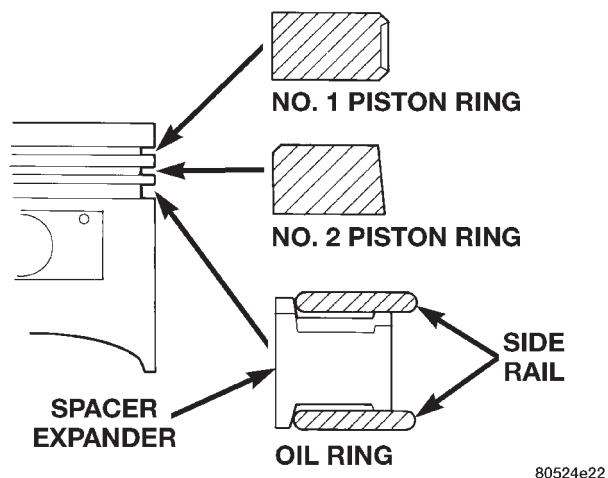

Fig. 90 Piston Ring Installation
(1) Install rings with manufacturers I.D. mark facing up, to the top of the piston (Fig. 90).
(2) Install upper side rail first and then the lower side rail.
(3) Install No. 2 piston ring and then No. 1 piston ring (Fig. 90).